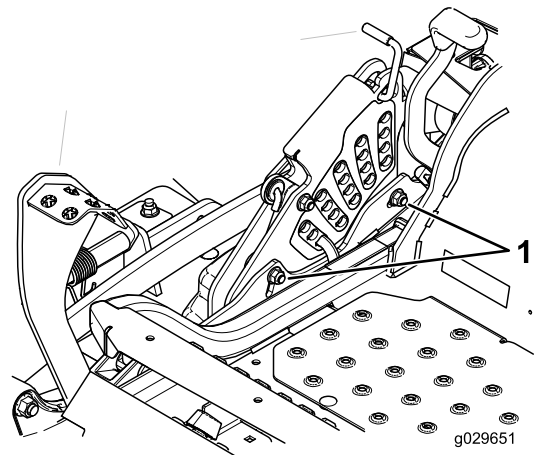

Figure 96
12. If the front deck links do not have enough adjustment to achieve accurate cut height, loosen the 2 bolts at the bottom of the height-of-cut plate to adjust the single-point system (Figure 96).
14. Tighten the 2 bolts at the bottom of the height-of-cut plate (Figure 96).